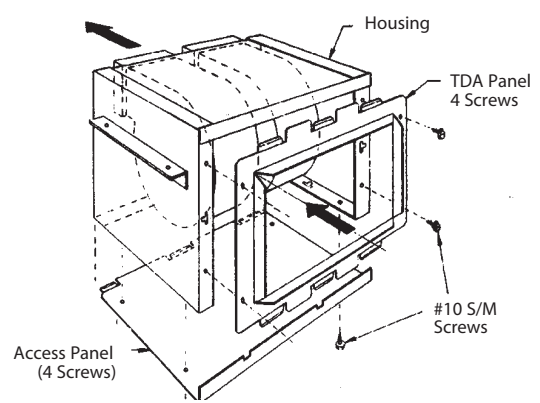

FIGURE 30: "TDA" (IN-LINE)
Note: As a standard, TDA units are furnished with an In-line discharge as shown in Figure 30.
1. Disassemble the TDA panel from the housing by removing the four #10 sheet metal screws securing the TDA panel to the housing and then remove the access panel by removing the four #10 sheet metal screws. Remove both panels as shown in figure 30.